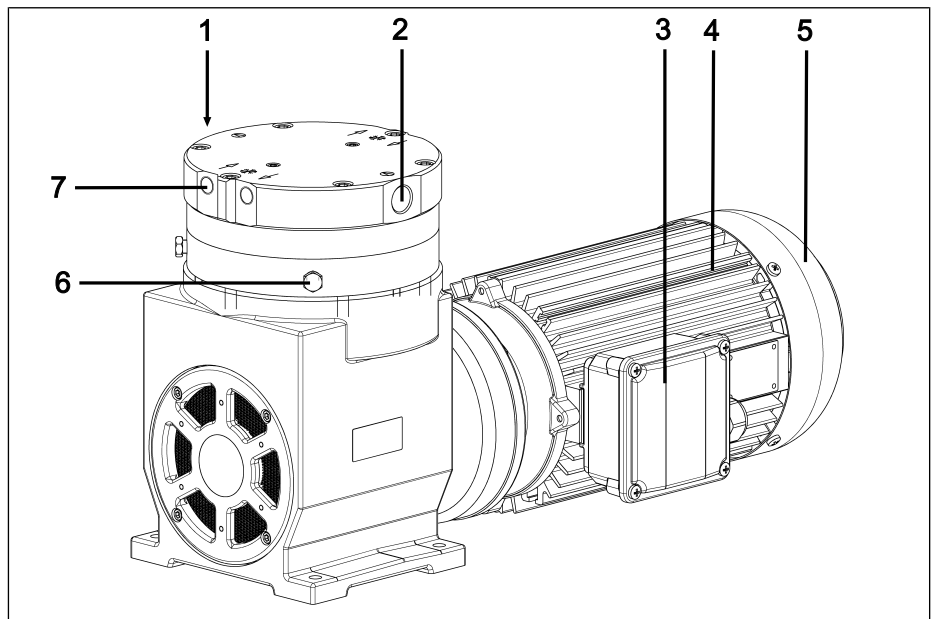

Fig.1 Diaphragm pump N0150.12 (three-phase motor)
2. Fasten the carrying strap between compressor housing and motor (Fig. 1, see Fig. 7).